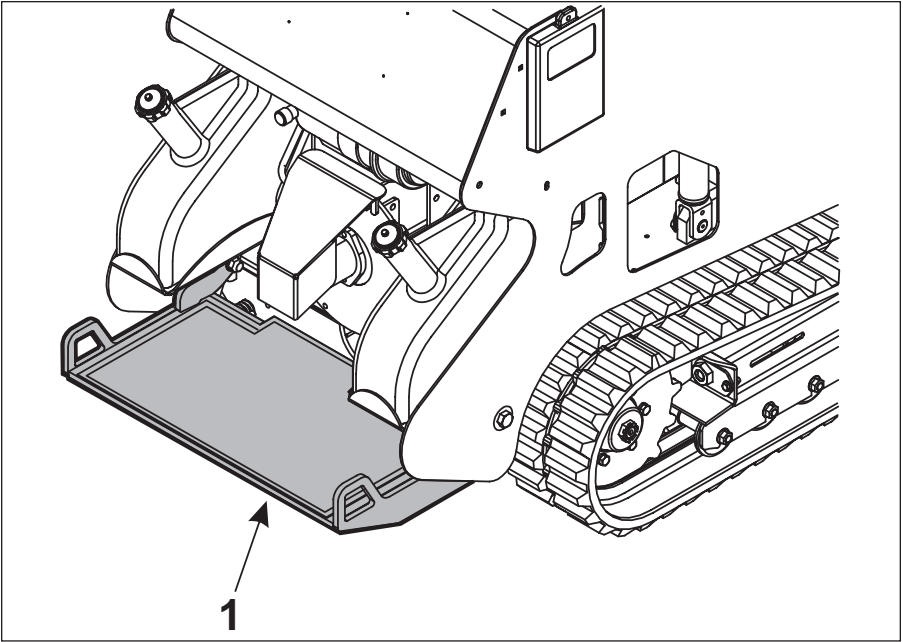

Figure 3-10 Operator's Platform
1. Stand on the operator's platform (Item 1, Figure 3-10).